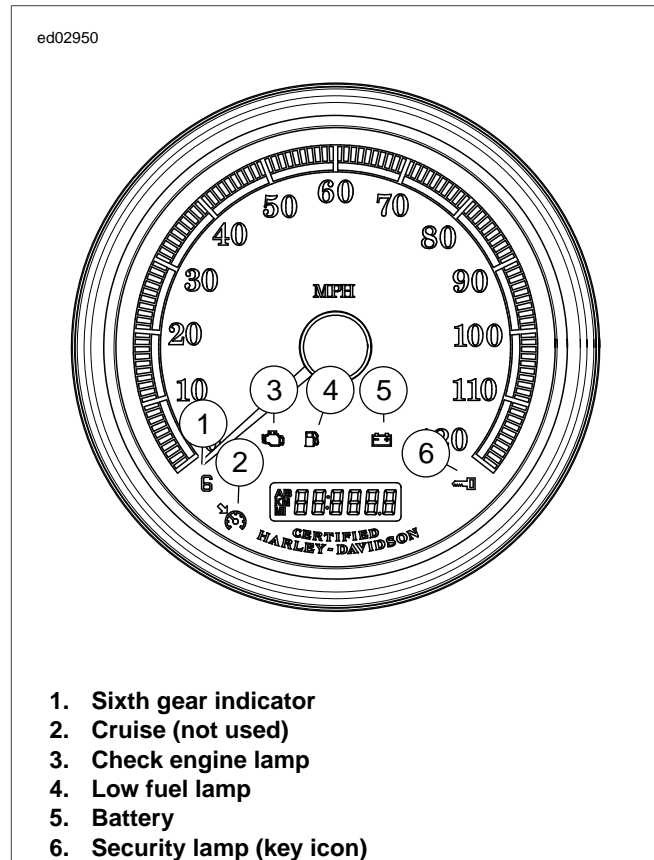

Figure 2-5. Speedometer
- For a quick check of speedometer function, a "WOW" test can be performed. Press and hold trip odometer reset switch, then turn ignition switch to IGN. Release trip odometer reset switch. See Figure 2-5. Background lighting should illuminate, speedometer needle should sweep its full range of motion, and indicator lamps (battery, security, low fuel, check engine, sixth gear indicator) should illuminate. All lamps should illuminate, even those not used in normal vehicle operations.